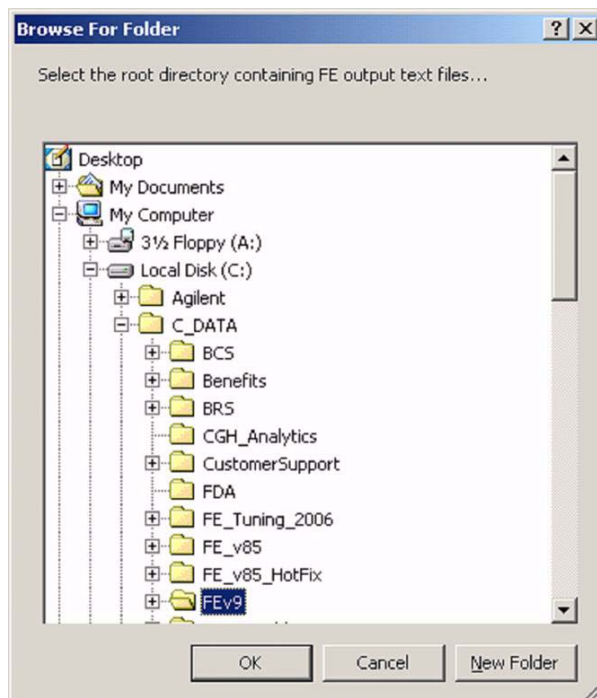

Figure 2 Browse For Folder dialog box
- 2 In the Browse for Folder dialog box, select the folder that contains the data files to import. See Figure 2.